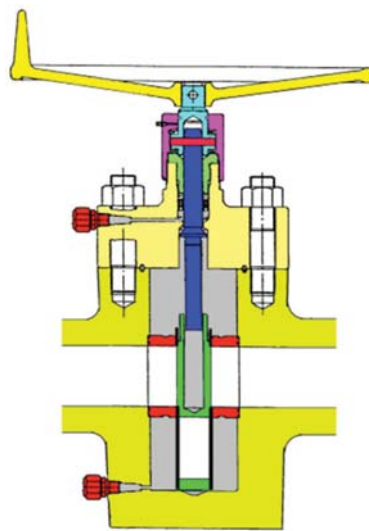

Figure 7.
both in the short and long term. If using body filler in gas service it can be that, in the worst case scenario, the body filler dries out, getting hard and preventing the gate from moving into the correct position. In some cases the parts of the body filler can dry out on the gate and prevent the gate and seat from sealing properly, as illustrated in Figure 1 (part 1). If using body filler inside a gate valve it is important to operate the valve several times a year. Looking at the illustrations in Figures 7 and 8 one can see the gate in the lower position (7) and in the upper position (8). When moving the gate up and down the body filler will be worked inside the cavity, preventing it from drying out, especially if having a stationary spindle when the movement of the gate will lubricate the threads on the spindle and drive nut.